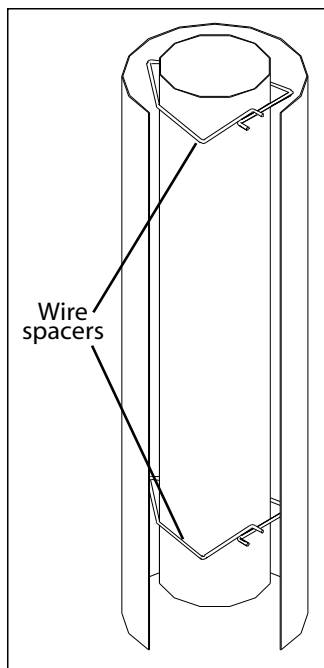

Figure 19: Wire Spacers.
8. Slide the Ø6⁵/₈" (16.25 cm) flex intake liner over the flex vent. Install four (4) wire spacers around the flex pipe. Ensure the wire spacers are positioned at either end of the pipes, and at each end of any elbows in the liners (refer to Figure 19 and 20).